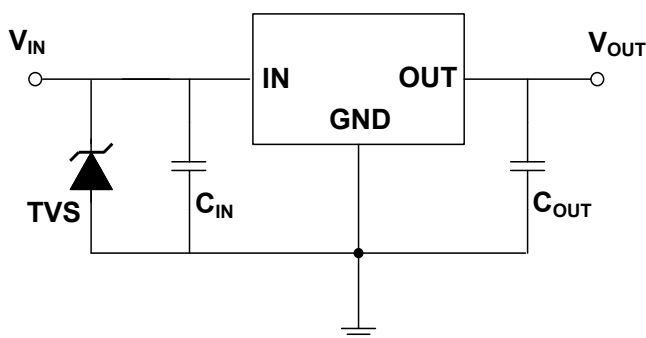

Figure 9-1. TVS are used at IN
1. Place a TVS between the IN and GND of the voltage regulator to absorb the peak voltage that may be generated due to ESD or other reasons. As shown in Figure 9-1;